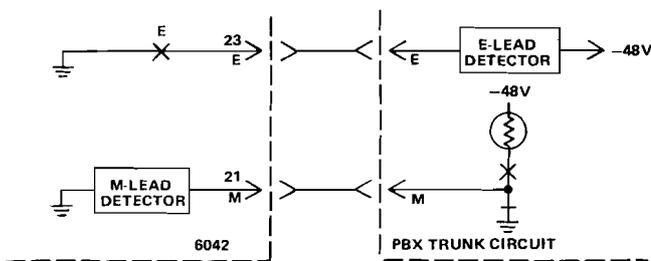

figure 4. DX1/Type I E&M interface
1.07 The 6042 can be switch-optional for DX1 or DX2 operation. With DX1 operation, M-lead signals are input to and E-lead signals are output from the module. With DX2, E-lead signals are input to and M-lead signals are output from the module. Either Type I, II, or III E&M lead interfacing (see figures 4 through 6 in section 2 of this Practice) can also be switch selected. Please note that while the Type I and II interfaces can be used with either DX1 or DX2 operation, the Type III interface can **only** be used with DX1.
2.06 As stated above, the electronic DX set in the 6042 is designed to operate in either the DX1 mode (where M-lead signals are input to and E-lead signals are output from the module) or in the DX2 mode (where E-lead signals are input to and M-lead signals are output from the module). The DX2 mode is generally used in tandem applications of DX sets, in applications where the 6042 interfaces carrier or other signaling sets, or in other situations where a terminal-side E&M-lead interface must be accommodated. Both the DX1 and DX2 modes eliminate the need for a pulse-link repeater in applications where the module interfaces a carrier channel or in tandem DX-set applications. Either Type I, II, or III E&M lead interfacing can be switch-selected (see figures 4 through 6). The Type I and II interfaces can be used with either DX1 or DX2 signaling, while the Type III interface can **only** be used with DX1 signaling. In general, Type 1 interfacing is used with electromechanical switching systems while Type II and Type III interfacing are used in electronic switching environments.